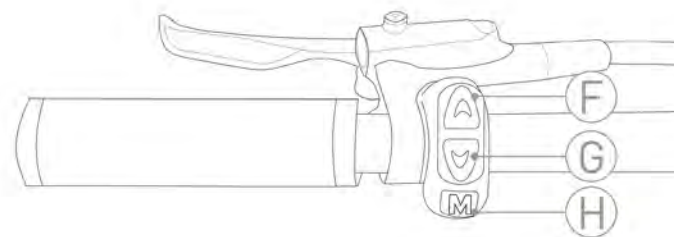

FIG. 5
To activate the walking assistance function, keep the "DOWN" key pressed (ref. G in Figure 5). The engine will activate, and the appropriate warning will appear on the display. The engine will shut down in the following cases:
- Release of the "DOWN" button (Ref. G in Figure 5)
By pressing the "UP"+"DOWN" buttons simultaneously (Ref. F - G - Figure 5) for two seconds you can open the screen of the menu. From any screen, holding the "POWER" key for 2", you can return to the last screen Home displayed. Once entered you can move in the menu with the buttons "UP" and "DOWN" and press "POWER" as sending.
Before pressing the F and G buttons at the same time (Figure 5), position yourself firmly on the bike and activate the brake, so as not to accidentally activate the starting mode from a standstill.